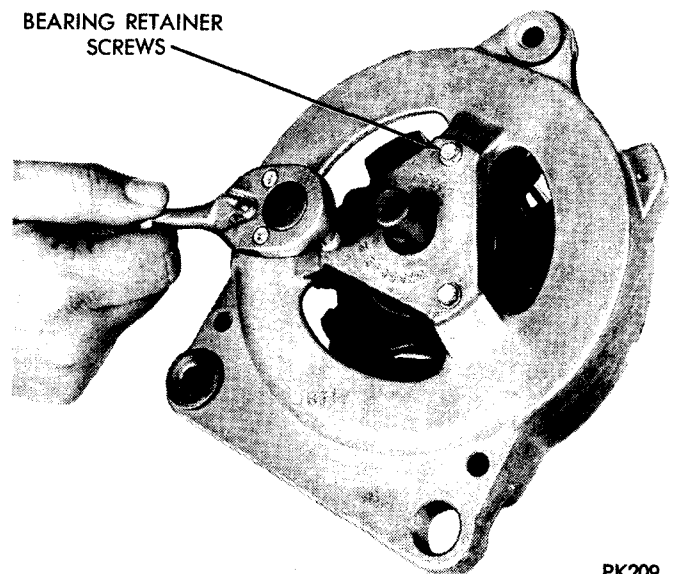

Fig. 53—Removing Bearing Retainer Screws
(2) Remove screws attaching bearing retainer to drive end shield (Fig. 53).
(3) Support end shield and tap rotor shaft with a